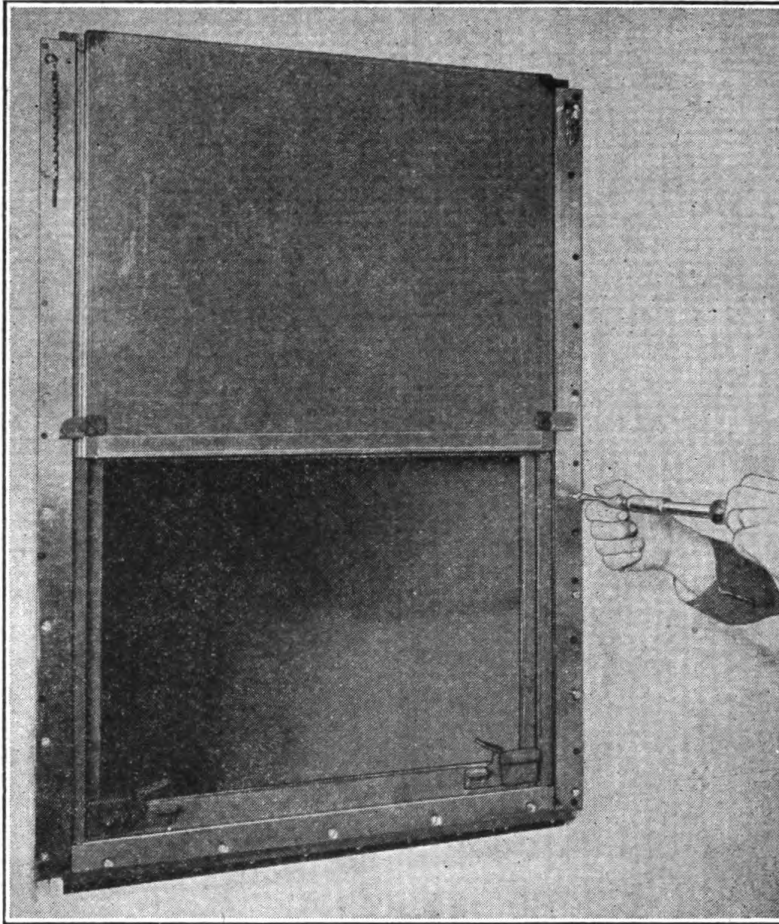

FIGURE 64. REMOVING BLACKOUT PANEL AND FRAME.
7. **WINDOW GLASS REMOVAL** (Fig. 64.)—*a.* Remove screws from blackout panel guide assembly; lift blackout guide and panel assembly off wall.